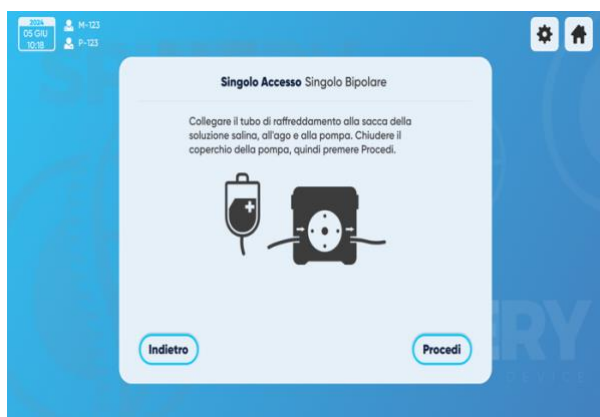

Figure 2 – Single Access Cooling Connection Screen
1. The illustrated instructions (Figure 2/3) ask you to connect the cooling connection tip to the saline bag from one end to the probe at the other end and place the propulsion tube into the peristaltic pump.